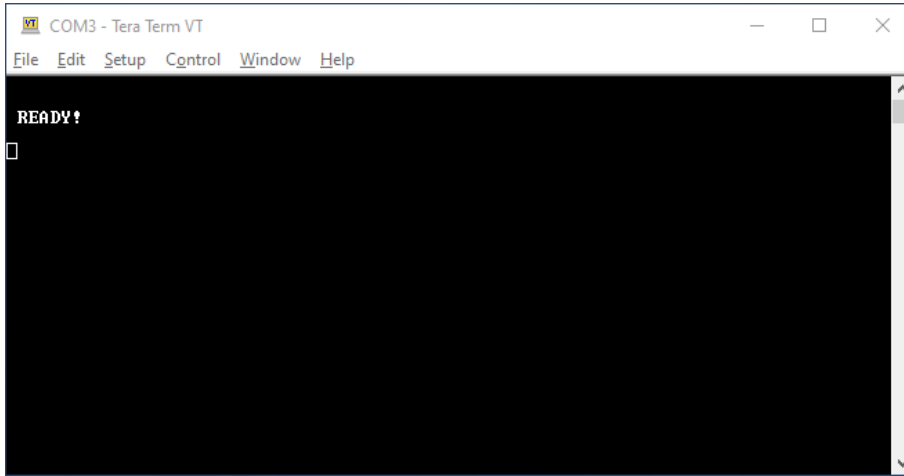

Figure 12. Console Screen – Ready for Software Image Download
4. Press **Enter** to activate Image Download Mode. LED D3 starts blinking fast and **READY!** message is displayed on the console screen (Figure 12). The bootloader is now waiting to receive the image file by the USB serial